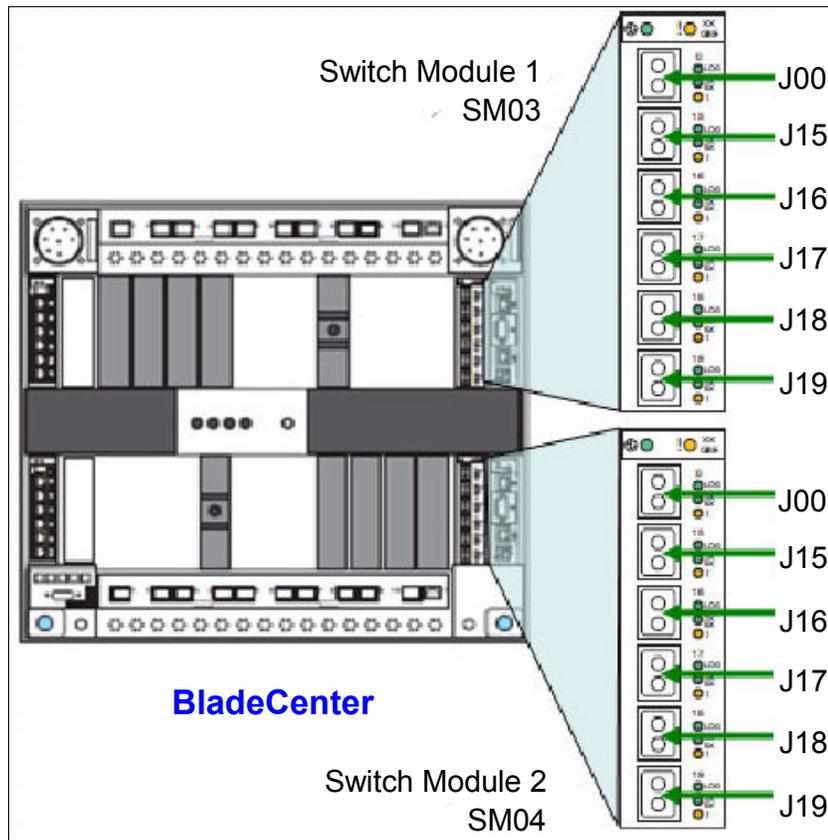

Figure 7-11 8 Gb FC switch external ports
Each BladeCenter chassis in the zBX has two 20-port 8 Gbps Fibre Channel (FC) switch modules. Each switch has 14 internal ports and six shortwave (SX) external ports. The internal ports are reserved for the blades in the chassis. Figure 7-11 shows an image of the external ports.